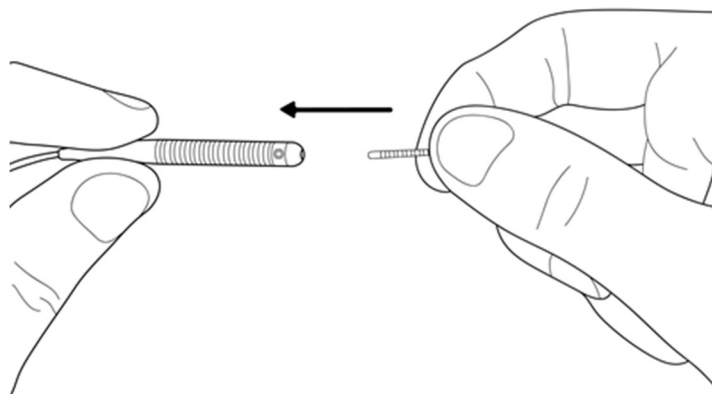

Figure 6.1: Inserting the lead proximal connectors into the lead extension connector block.
2. Insert the lead proximal connectors into the lead extension connector block (refer to Figure 6.1).